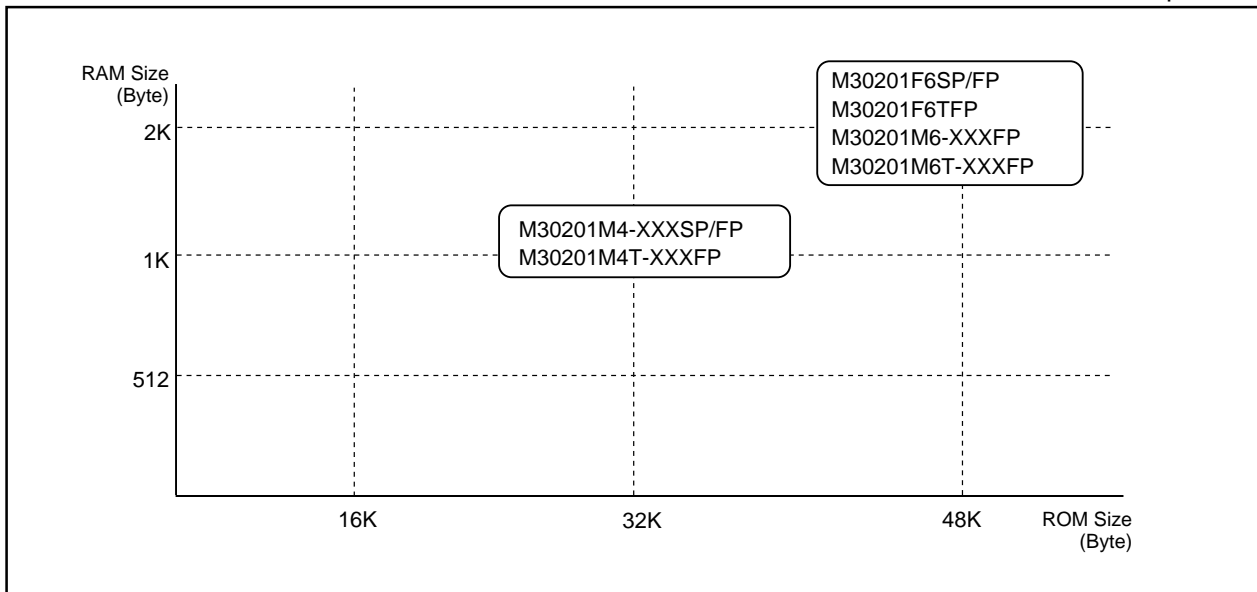

Figure 1.4. ROM expansion
- Memory capacity ..... ROM/RAM (See figure 1.4. ROM expansion.)